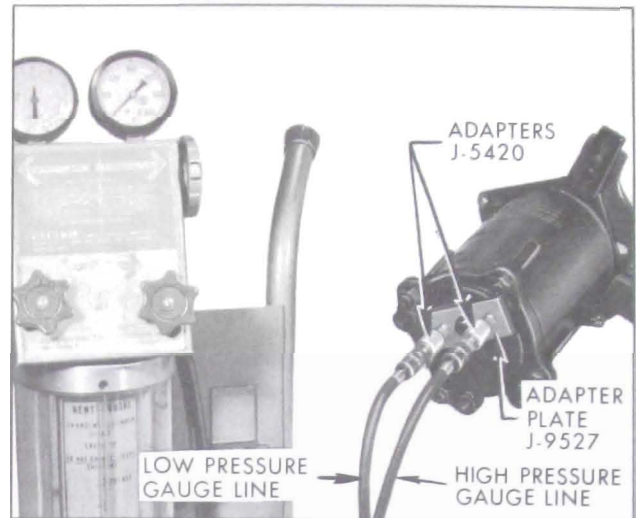

Figure 11-91—Charging Line Adapter Plate
5. Attach charging line adapter plate, J-9527 on rear of compressor and pressurize suction side of compressor with Refrigerant-12 at pressure corresponding to room temperature. Rotate compressor shaft several times. See Figure 11-91. Leak test with leak detector and correct any leaks.